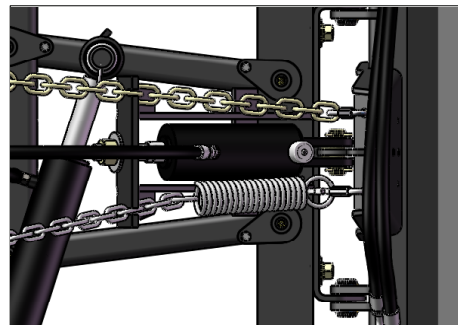

figure 2
4. Assemble the spring-chain assembly/assemblies. Attach the spring end(s) to the brush head upright. Then place the chain in a slot on the swing plate upright. Figure 2 shows a spring-chain assembly installed on the unit.